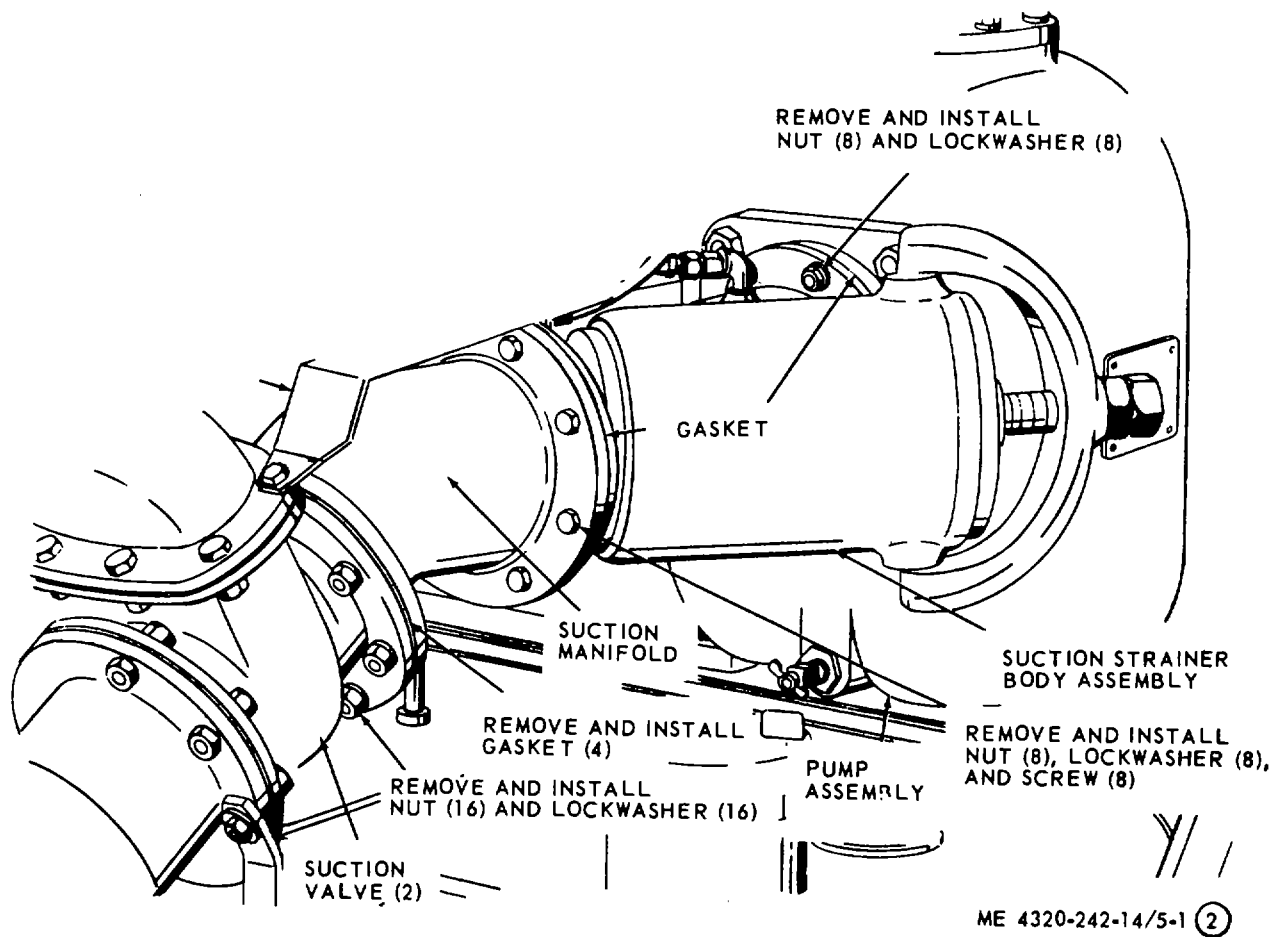

Figure 5-1. Suction manifold and strainer body assembly, removal and installation. Model 84C15-4A084, serial numbers 419501 through 419959. (Sheet 2 of 2)
a. *Removal.* Refer to figure 5-1 and remove the
b. *Installation.* Refer to figure 5-1 and install the suction manifold and strainer body assembly.
Figure 5-1. Suction manifold and strainer body assembly. removal and installation. Model 84C15-A0484, serial numbers 371201 through 415493 and Model US36ACG, serial numbers 37044-001 through 37044-240.
- (2) Remove throttle control line.
- (3) Remove tachometer hourmeter cable and clip.
- (4) Remove pump suction line.
- (5) Remove pump pressure line.
- (6) Remove engine oil pressure lines.
- (7) Remove instrument panel.
- (8) Remove bolt lockwasher from intermediate housing and flywheel guard.
(9) Remove the suction manifold and strainer body assembly (fig. 5-1 (1)).